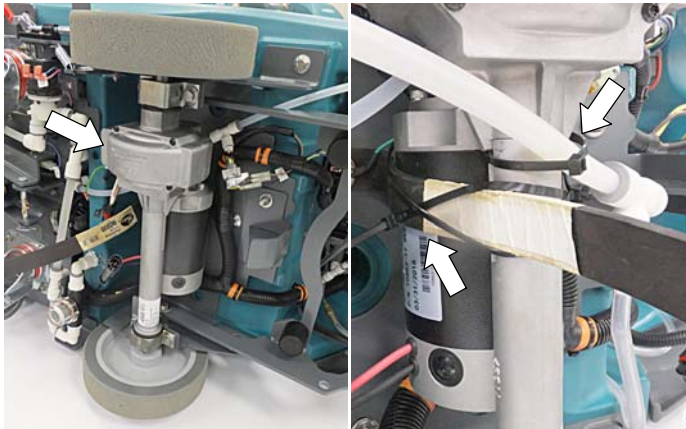

Fig. 7
7. Reinstall the transaxle and reconnect the harness connector and solution hose (Figure 7). Use provided cable-ties to secure solution hose and static strap to the transaxle as shown.